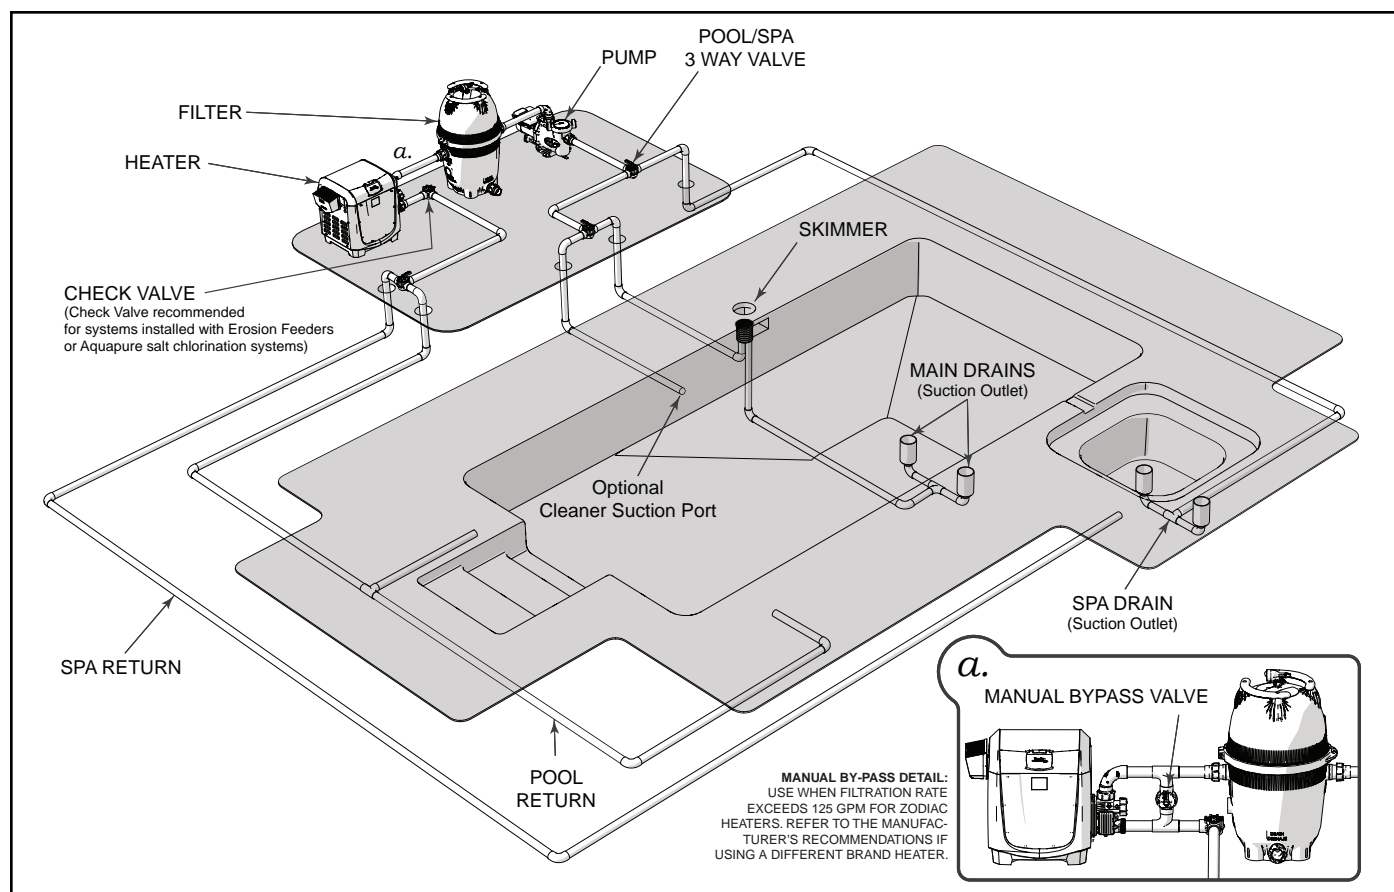

Figure 2. Typical Piping Installation
- The system **must** be built to include at least two (2) suction outlets (drains) connected to the pump whenever the pump is running. However, if two (2) main drains run into a single suction line, the single suction line may be equipped with a valve that will shut off both main drains from the pump. The system shall be constructed such that it shall not allow for separate or independent shutoff or isolation of each drain. See "Figure 2. Typical Piping Installation".
- More than one (1) pump can be connected to a single suction line as long as the requirements above are met.
- If 100% of the pump's flow comes from the main drain system, the maximum water velocity in the pump suction hydraulic system must be six (6) feet per second or less, even if one (1) main drain (suction outlet) is completely blocked. The flow through the remaining main drain(s) must comply with the latest version of ANSI/ASME A112.19.8, the standard for Suction Fittings For Use in Swimming Pools, Wading Pools, Spas, and Hot Tubs, or its successor standard, ANSI/APSP-16.
- **Fittings** - Fittings restrict flow; for best efficiency use fewest possible fittings (but at least two (2) suction outlets).